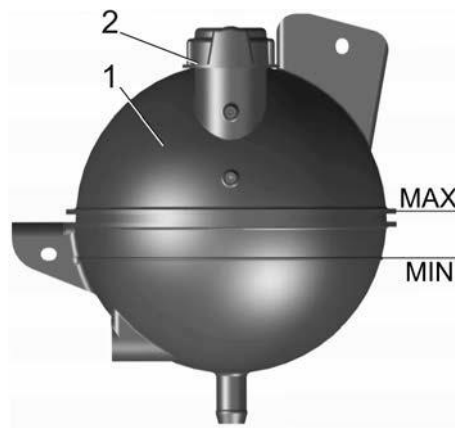

Fig. 2.13. Expansion tank: 1 – tank; 2 – plug
Check the coolant level in expansion tank 1 (Fig. 2.13) on a cold engine only.
- fill the expansion tank with fresh coolant of the recommended grade to the upper welded expansion tank flange level (MAX mark) (see Fig. 2.13). Fill slowly with continuous flow. When expansion tank level stops dropping, vigorously squeeze the lower radiator hose 2-3 times;